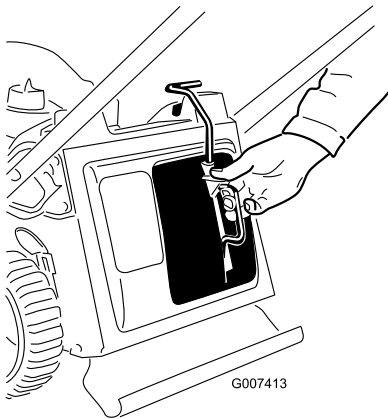

Figure 8
2. Squeeze the button on the lever with your thumb and fully insert the mulch plug into the opening (Figure 8).